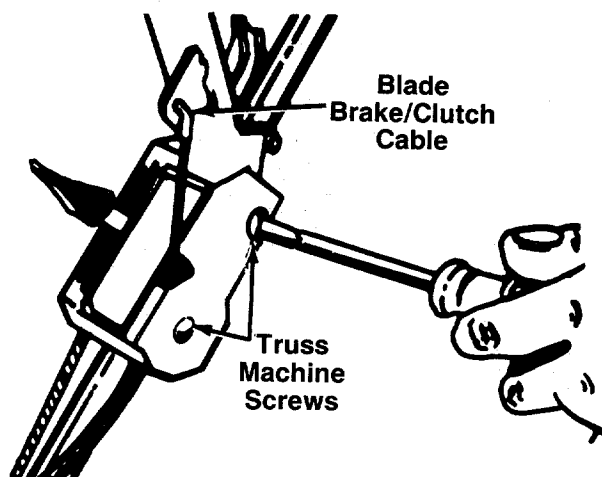

FIGURE 22.
5. Remove the two truss machine screws on the inside of the control housing as shown in figure 22.